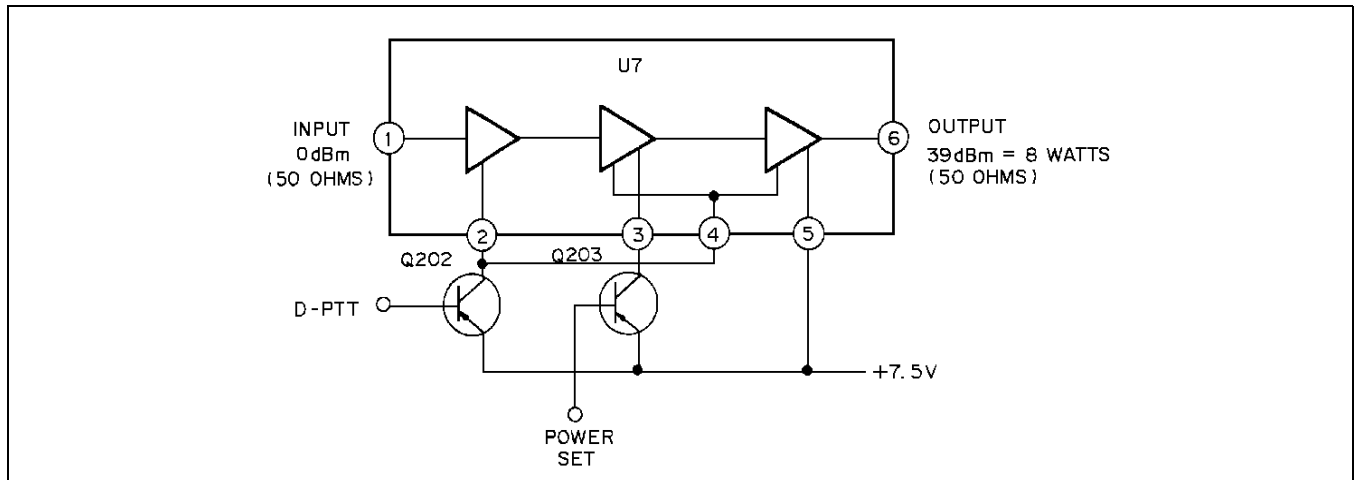

Figure 4 - Power Amplifier (PA) VHF
Power Amplifier (PA) U7 is a three-stage, wideband amplifier module with an input and an output impedance of 50 ohms (Figure 4). The second stage of the PA module has the dc power supplied by power set transistor Q203. The rf power output from amplifier is connected to pin 1 of the PA module where it is applied to the input of the rf power amplifier stages. The RF power amplifier stages amplify the input from the Tx-Amp module to a typical power output level of eight watts at pin 6. The output at pin 6 is connected through the LPF/DC/SW module. A minimum power level of six watts is on the output output of the LPF/DC/SW module.